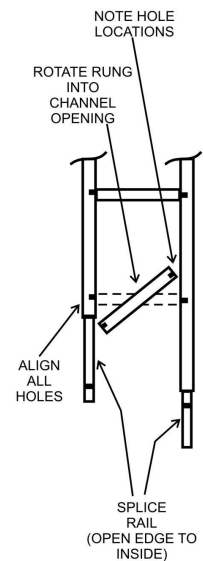

Figure 2.
4. Rotate each rung into the channel opening and align the holes as shown in *Figure 2* (see next page). Ensure that the rungs are parallel to the factory installed rungs.
7. Rotate the rung into the channel opening and align the holes as shown in *Figure 2*. Ensure that the rungs are parallel to the factory installed rungs.